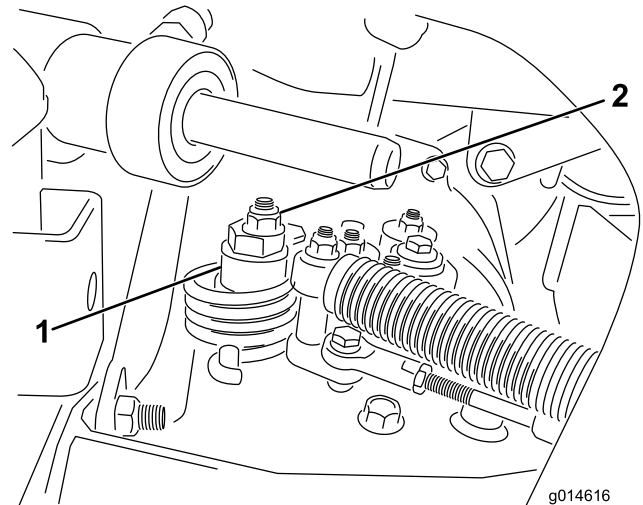

Figure 49
- A. Loosen the nut securing the eccentric to the top of the hydrostat (Figure 49).
- C. Rotate the eccentric until creep does not occur in either direction. When the wheel stops rotating, tighten the nut locking the eccentric and the adjustment (Figure 49). Verify the adjustment with the throttle in the Slow and Fast position.